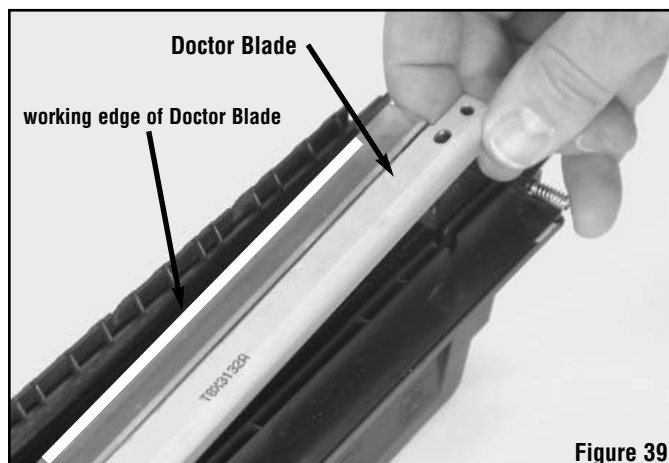

Figure 39
- b. Orientate the Doctor Blade so that the working edge is on toward the inside of the hopper; then, set the Doctor Blade in place. See figure 39.